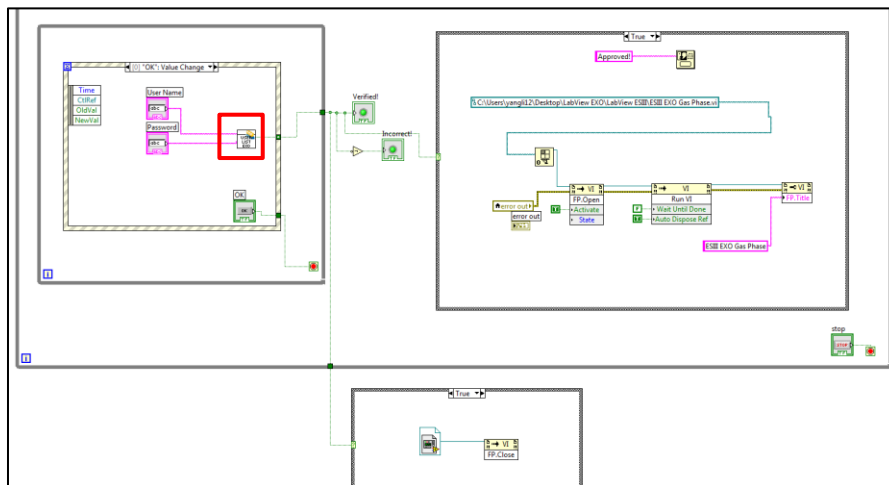

Fig.2. Block Diagram of *Login (Start Here!).vi*
- Double click the function that is enclosed by red rectangle in Fig.2, then you get: